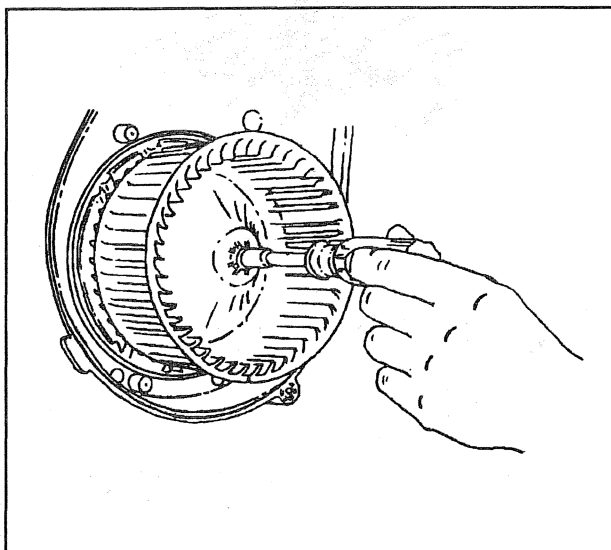

Figure 57—Removing Blower Fan Cage
4. Screws (29).
6. Blower motor (28).
7. Fan cage from the motor (figure 57)
1. Fan cage to the motor (figure 57).
2. Blower motor (28) to the heater case.
3. Screws (29).
- Screws (29) to 1.7 N.m (15 lbs. in.).